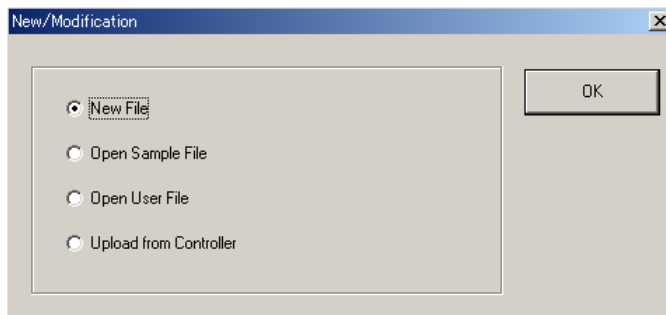

Figure 3.1.3 [New/Modification] Dialog Box
(5) Select the controller model (UT750 or UP750) and click the <OK> button.
(6) The [New/Modification] dialog box appears. (Fig. 3.1.3)